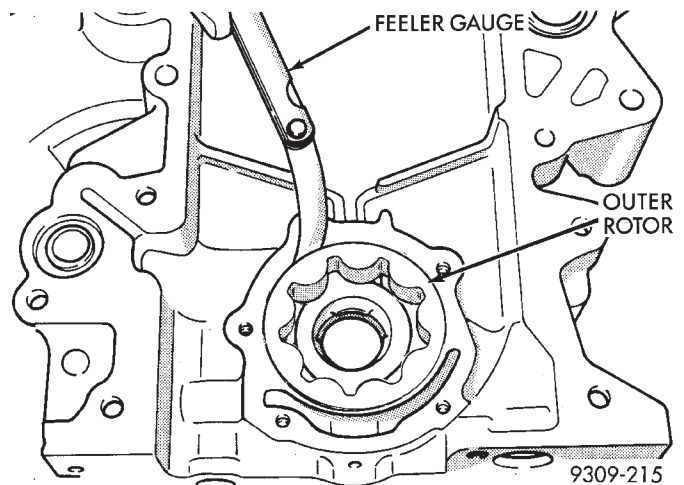

Fig. 81 Measuring Outer Rotor Clearance in Housing
(7) Slide outer rotor into chain case cover, press to one side with fingers and measure clearance between rotor and chain case cover (Fig. 81). If measurement is 0.39 mm (0.015 in.) or more, replace chain case cover only if outer rotor is in specification.